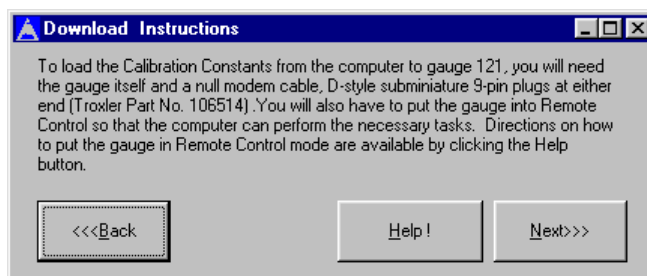

Figure 3–15. Download Instructions Window for RS-232 Cable
6. The software now prompts the user to select the serial communications (Com) port settings for the computer. This display is similar to the one shown in Figure 3–6 on page 3–14. Select the desired Com port and baud rate from the dropdown lists and click **<Select>**, or click **<Back>** to return to the previous display.